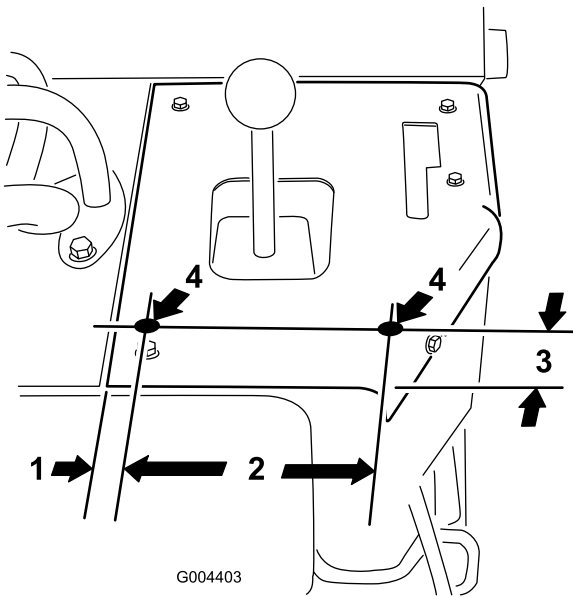

Figure 8
2. Locate and drill 2 holes (3/8 inch) on the control panel below the loader-arm lever (Figure 8).